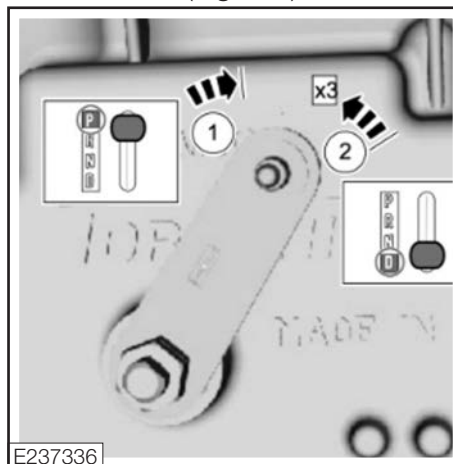

Figure 100
b. Rotate the manual lever counterclockwise 3 detents (Fig. 100).